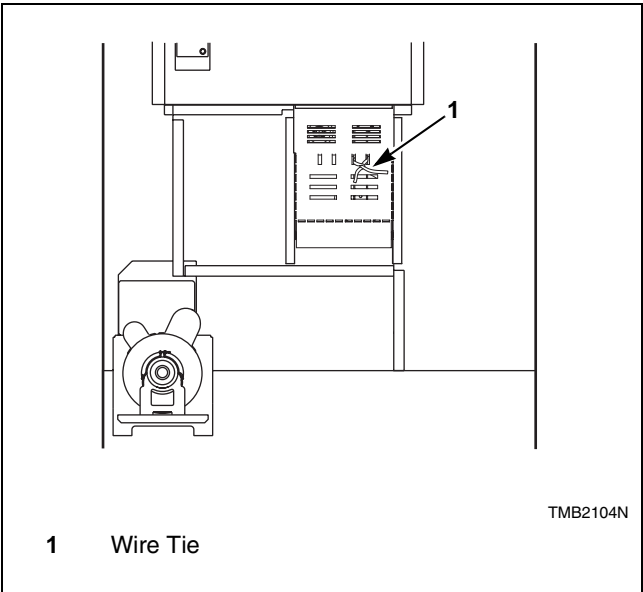

Figure 4
- 3. Remove and discard wire tie from the airflow switch so it can swing freely. Refer to *Figure 4*.
- Failure to remove wire tie from rear of machine. Refer to *Figure 4*.